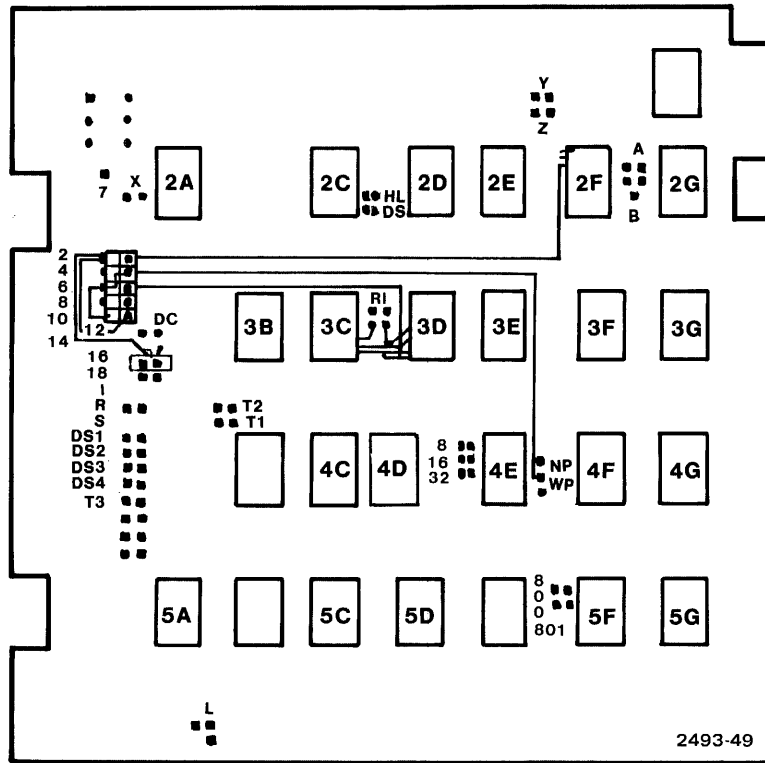

Figure A-1. Wire Harness and Plug Location for Disc Drive with 118-0358-02 Board.
Disc drives themselves are used in several configurations for the 4907 and other products. Whenever a new disc drive board is installed, refer to Table A-1 and Figures A-1 and A-2 for correct strapping information.
- Terminator straps (see Figures A-1 & A-2): T1, T3, T4, T5, T6 should be present in the drive furthest electrically from the controller.
For strap locations in the following table, see Figures A-1 and A-2.